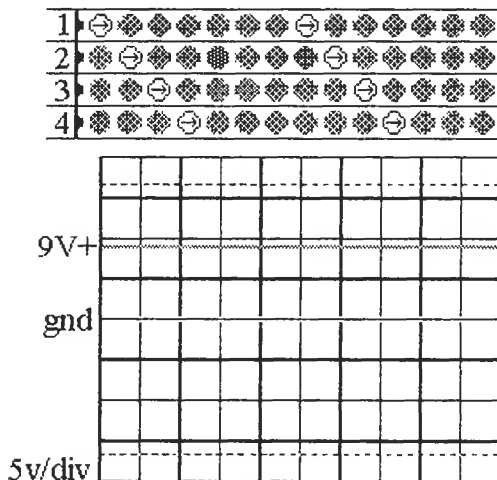

Figure L49-1
We always hear the terms *direct current* (DC) and *alternating current* (AC). Direct current means that the current in the system is always flowing in one direction. Electronics depends on direct current. Naturally, flowing water has been a good comparison for positive DC voltage  $V+$ . Water always flows in one direction—downhill, toward the lowest point. Direct current is easily generated by chemical reactions in batteries. Figure L49-1 shows positive movement of electrons while the scope shows the voltage is above